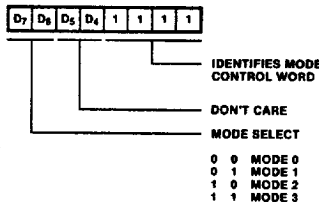

Figure 9: PIO Mode Control Word
**Mode Control Word (Figure 9).** Selects the port operating mode. This word is required and may be written at any time.